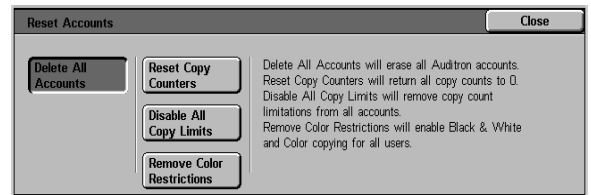

Figure 30: Delete All Accounts button
- 2 Touch the **Delete All Accounts** button if you want to delete all the Auditron user accounts, Figure 30.